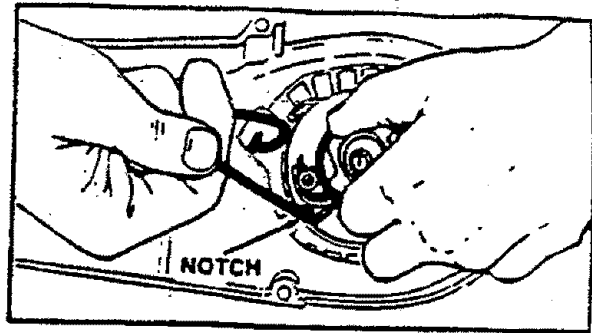

Figure 42
17. Hold the 10 inch slack in the rope and catch rope in pulley notch. Figure 42.